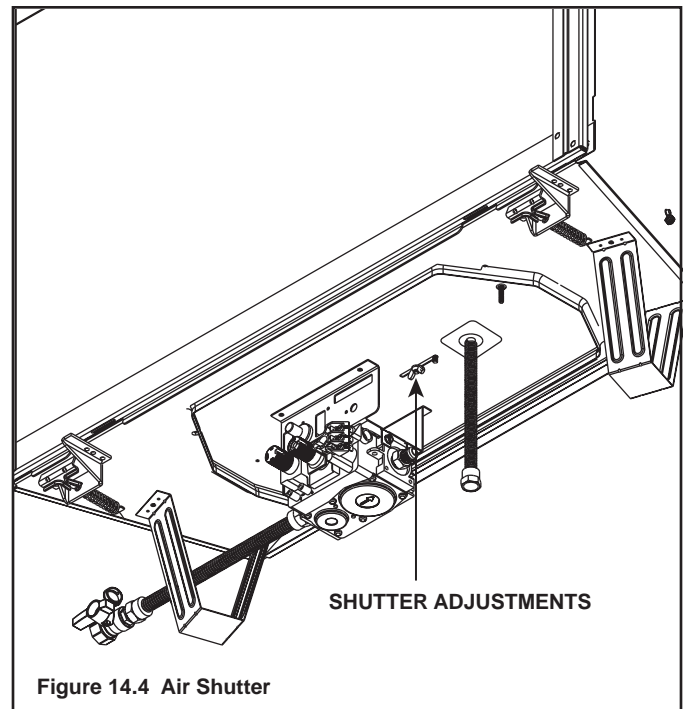

Figure 14.4 Air Shutter
- Embers CANNOT be placed directly over ports. See Figure 14.4 for the only exception to this guideline. Care should be taken not to cover the lighting trail of ports (from back to front).
- Some of the small port holes should be covered with ember material. See Figure 14.4 for detail.
This appliance has an adjustable air shutter (which controls the primary air) factory set for the minimum vertical vent run (see Figure 14.4). If your installation has more than the minimum required vertical vent length, adjustment of the air shutter may be necessary to obtain optimal flame appearance. **This should be adjusted by a qualified installer at the time of installation.**